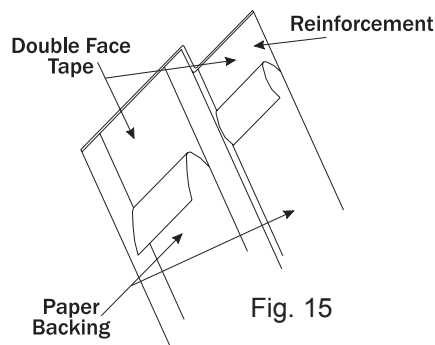
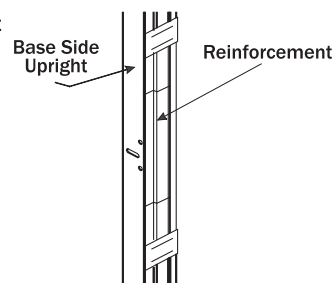

Fig. 15
Fig. 16
- 2** Expose double face tape by removing paper backing on two strips of tape (Fig. 15) and press into position to secure the sleeve to the frame (Fig. 16).